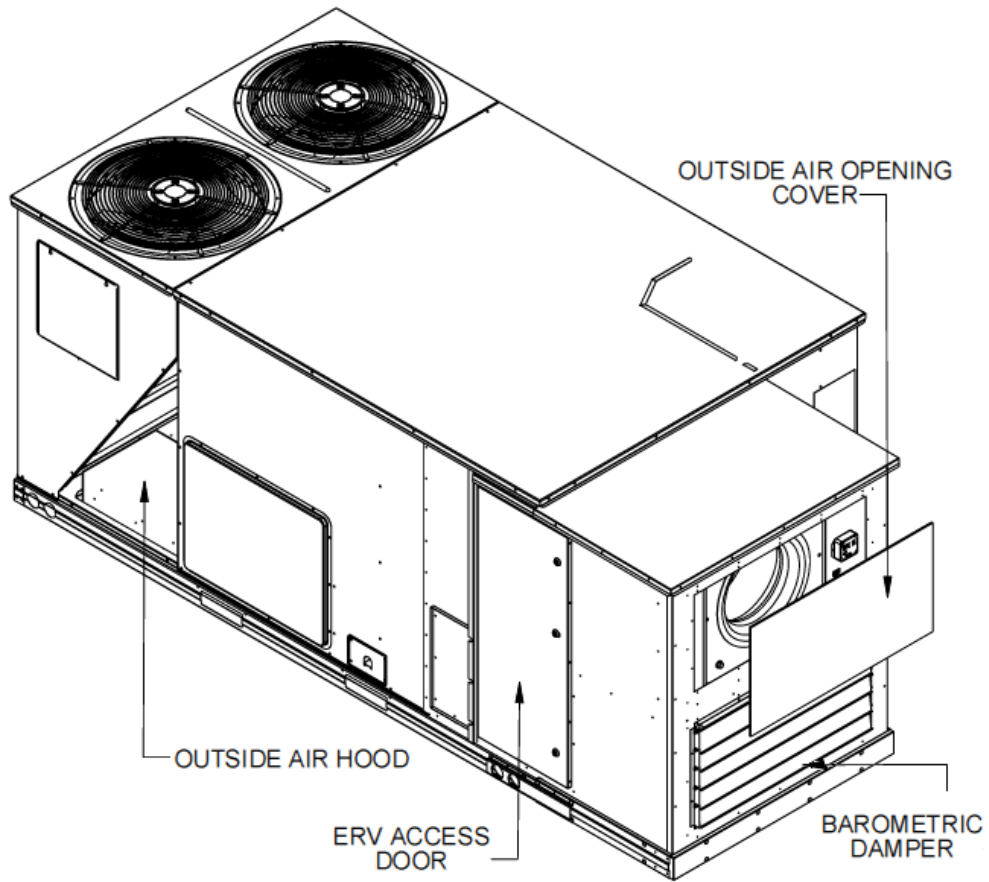

Figure 1c – Panel and shipping location
1. Remove and discard the outside air opening covers on the end of the unit. See figure 1c.
2. Locate and remove the knocked down exhaust hood and the pre-assembled outside air hood from their shipping locations under the condenser coil. See figure 1c